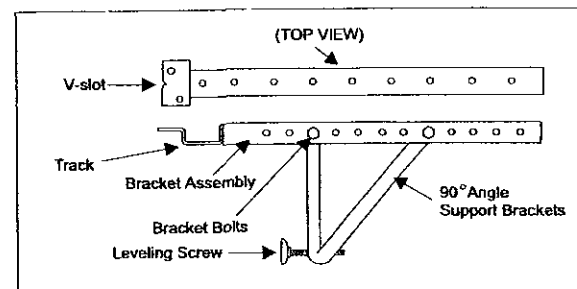
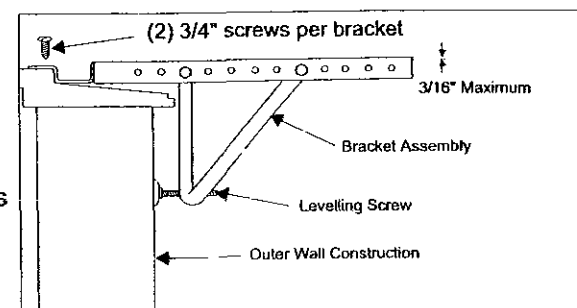
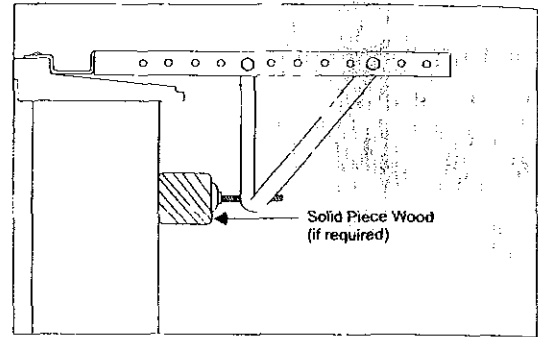

Fig 8
Fig 9
Fig 10
A Attach the **bracket assembly to 90° angle support brackets** (Fig 8) using (2) 1 1/2" bolts (provided) per bracket Secure with the (2) 1/4" lock washers and (2) 1/4"nuts. **DO NOT** immediately tighten these bolts as it may be necessary to adjust the depth of the **bracket assembly**, depending on the depth of your window sill, see (Fig 9) Install the two **leveling screws** into the 90° support brackets Test the bracket assembly in the window before cabinet installation If the leveling screws are distanced too far away from the wall to provide stability, it may be necessary for you to shim this area with a solid piece of wood See (Fig 10)
If additional support to the bracket assembly is required, use a solid piece of wood to provide stability. This will be required when sills are extra deep See (Fig. 10).